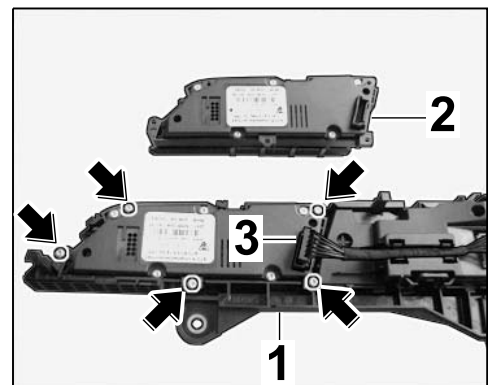

Figure 47
- 8.2.2 Remove screws ⇒ *Figure 47 -arrows-*.